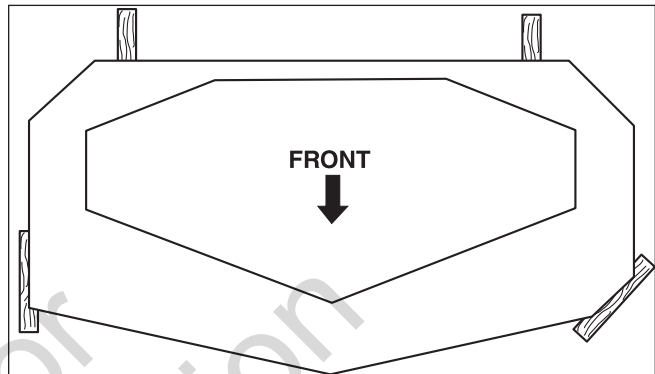

Figure 45. 2 X 4 Locations (Arrow points toward front of the deck)
6. Block up the mower deck until all hanger chains are slack. Refer to Figure 45.